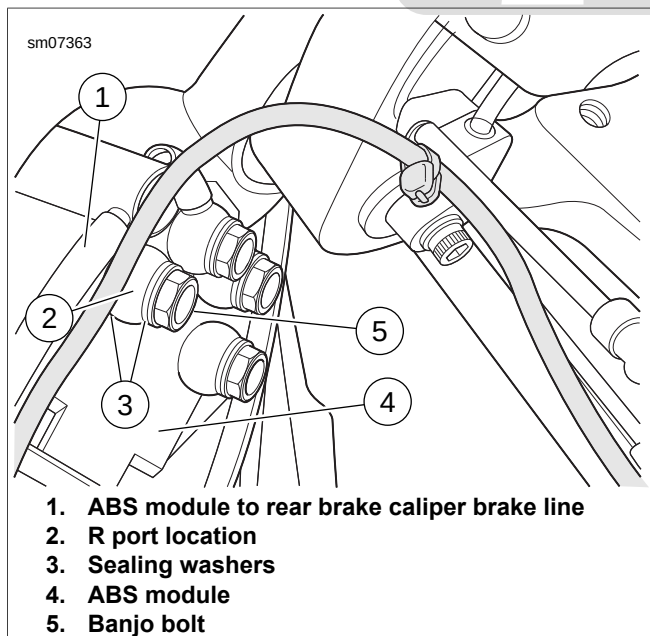

Figure C-15. ABS Module R Port Location
- 6. See Figure C-15. Remove banjo bolt to remove brake line from R port of ABS module. Discard sealing washers.
- 2. See Figure C-15. Start banjo bolt (5) with **new** sealing washers (3) to secure brake line to R port (2) of ABS module (4).